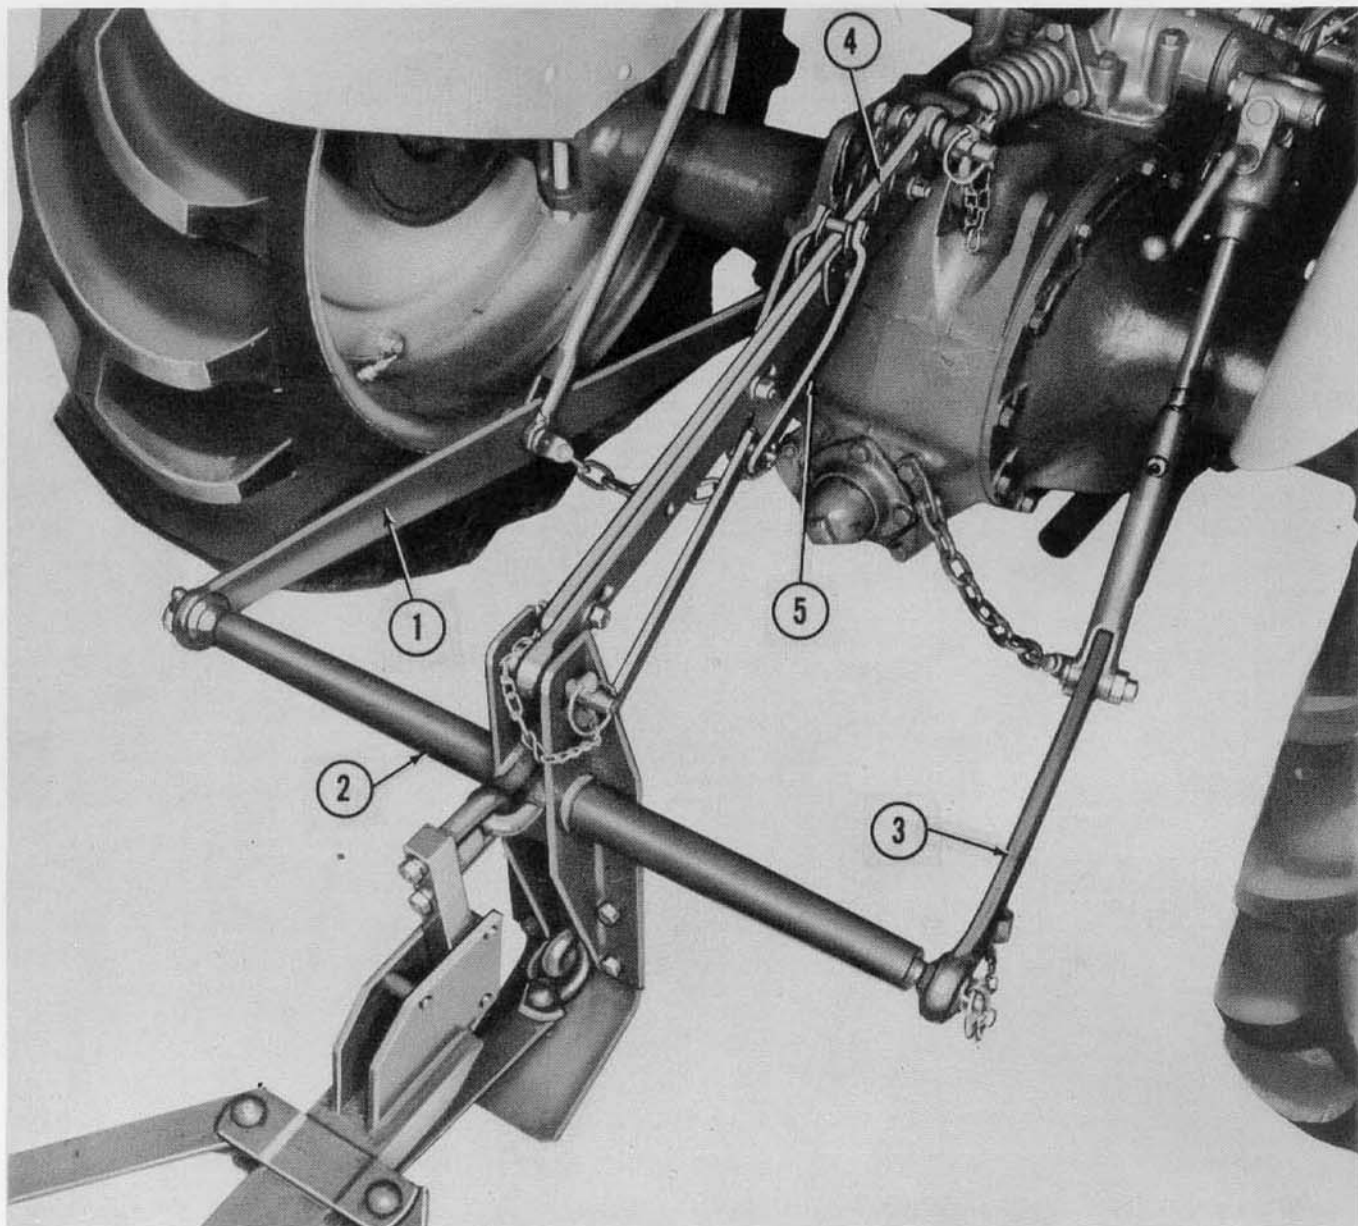

Figure 12
1. Attach tractor left lower link (1), Figure 12, to cross drawbar (2).
2. Attach tractor right lower link (3) to cross drawbar.
3. Bolt angle adjusting rack (4) in place on tractor upper link as shown.